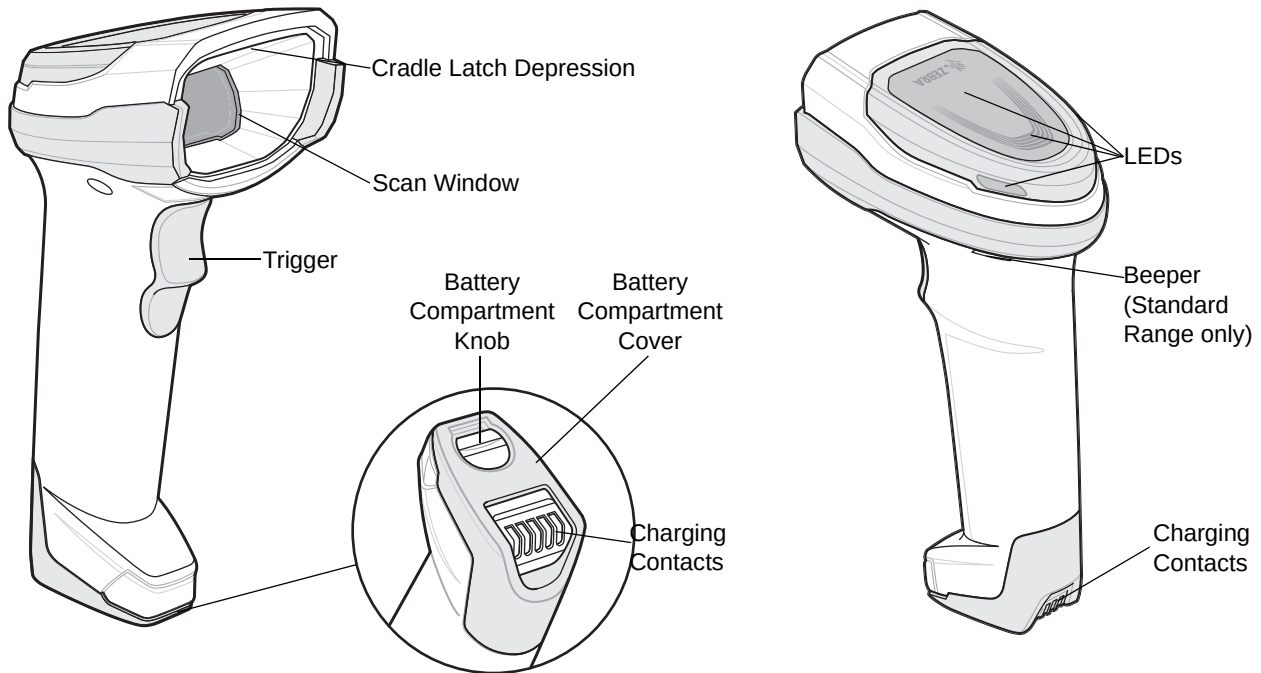

Figure 1-1 Digital Scanner Features
1. Insert the scanner into the cradle top first ensuring that the cradle latch depression (see Figure 1-1 on page 1-2) connects with the scanner latch on the cradle.